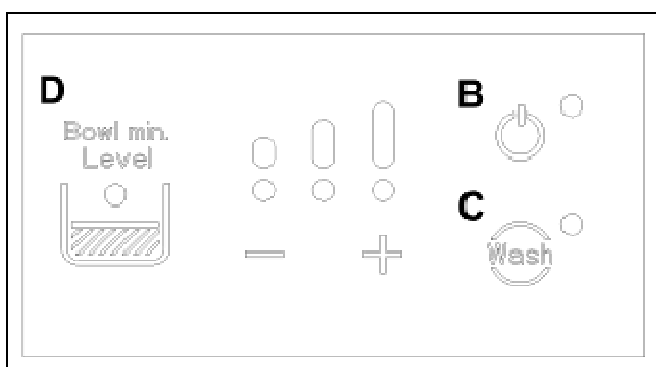

Fig. 38
**- When the product level LED D and the power LED B (fig. 38) are lit with a buzzer sound activated, it means that the product level in the top tank is low and should be refilled; in these conditions the appliance is blocked and only the dispensing system will be activated if necessary until the product level has been restored.**